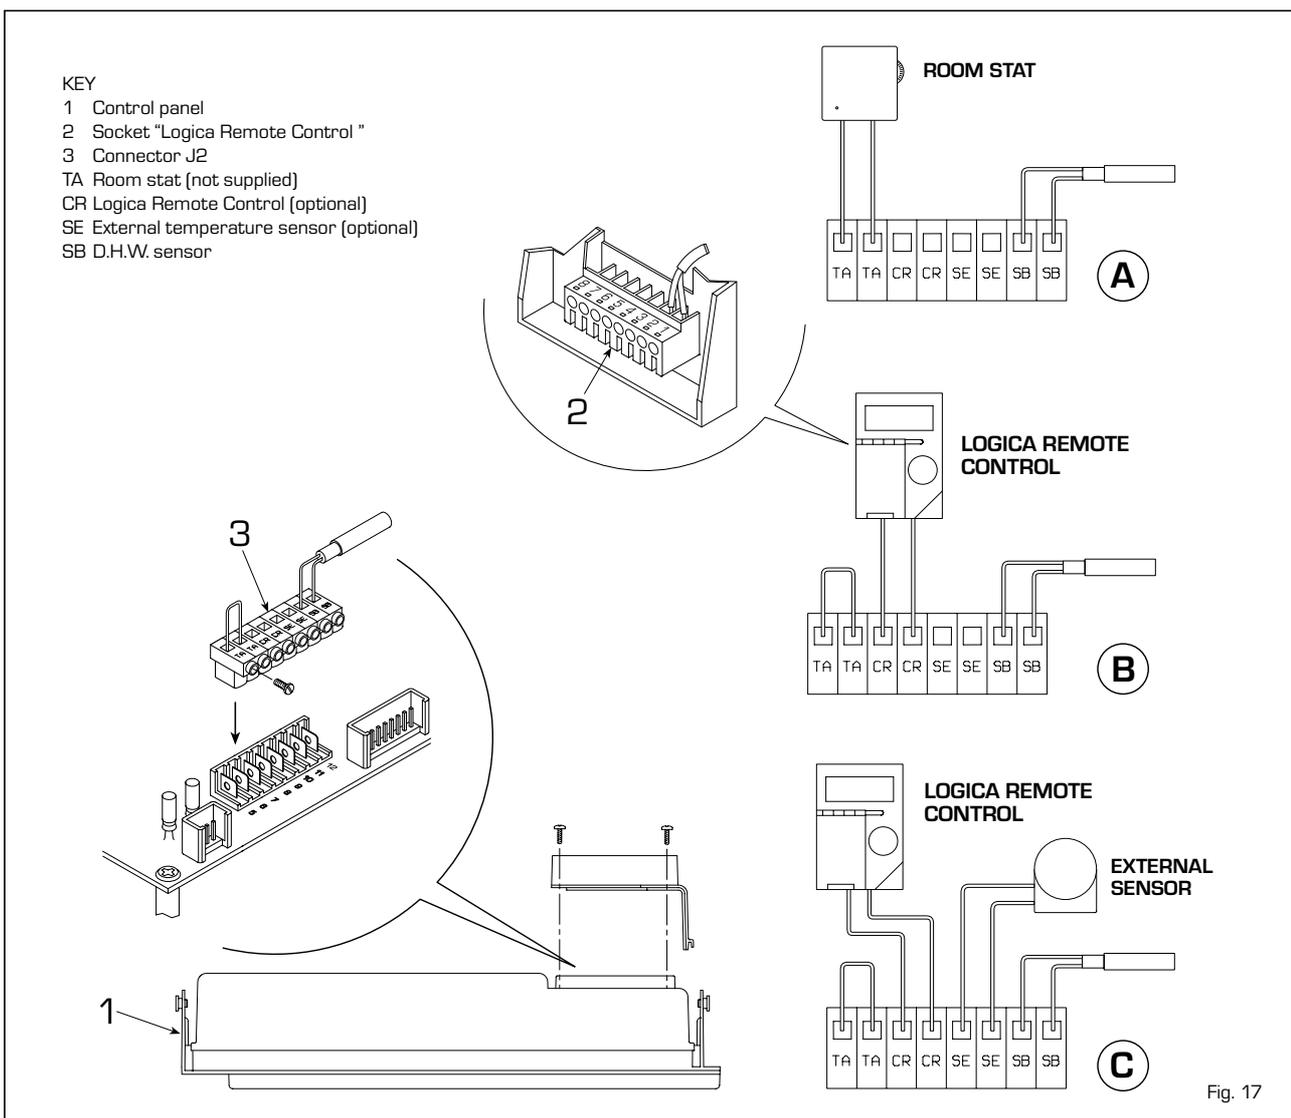

Fig. 17
By utilising the doubler fitting (7 fig. 16) it is possible to have a concentric discharge. In these cases, during assembly, it is necessary to get the washer in silicon used on the reduction of the terminal (5 fig. 17) to be substituted with the doubler and place it in the housing of the doubler.
2.9.1 Room stat connection (fig. 17 pos. A)
2.9.2 Connection "Logica Remote Control" (fig. 17 pos. B)
2.9.3 Connection external temperature sensor (fig. 17 pos. C)